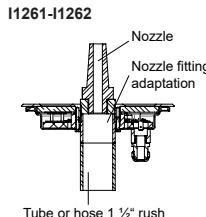

Fig. 1
3.1 - Projector on the pipe (Fig.1):